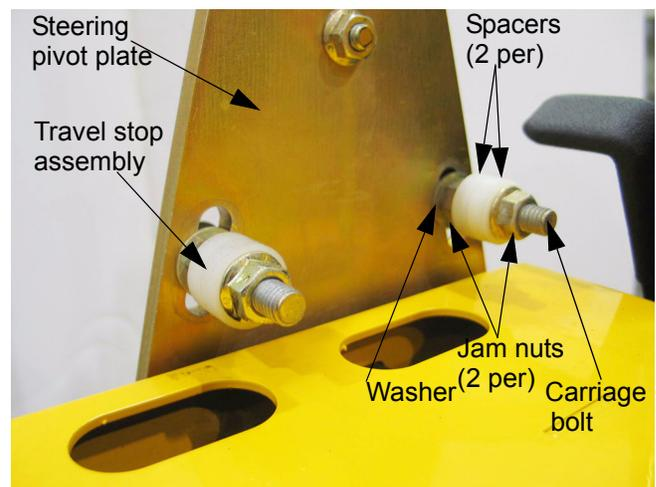

Figure 19.2
19.2. Loosen the rollers on the steering pivot plates that act as travel stops, using a 9/16" wrench. See Figure 19.2.